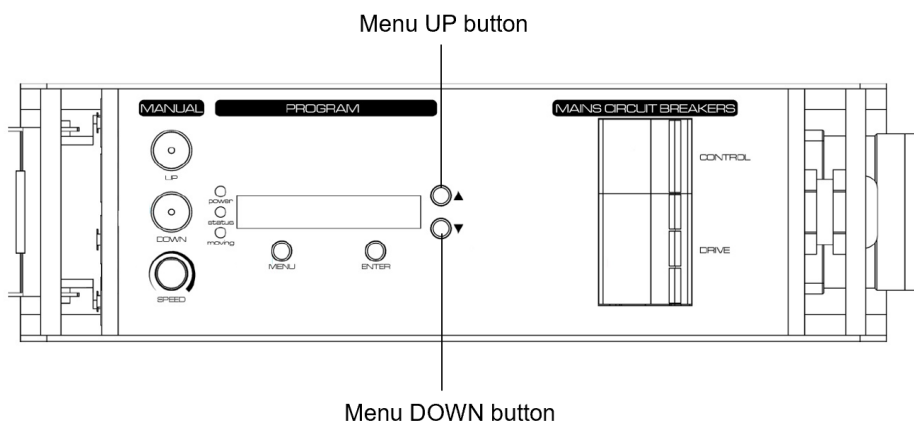

Figure 22. Elevation Drive Menu buttons
2. Hold both the Menu Up and Menu Down buttons (see Figure 22) and make a manual move in any direction.